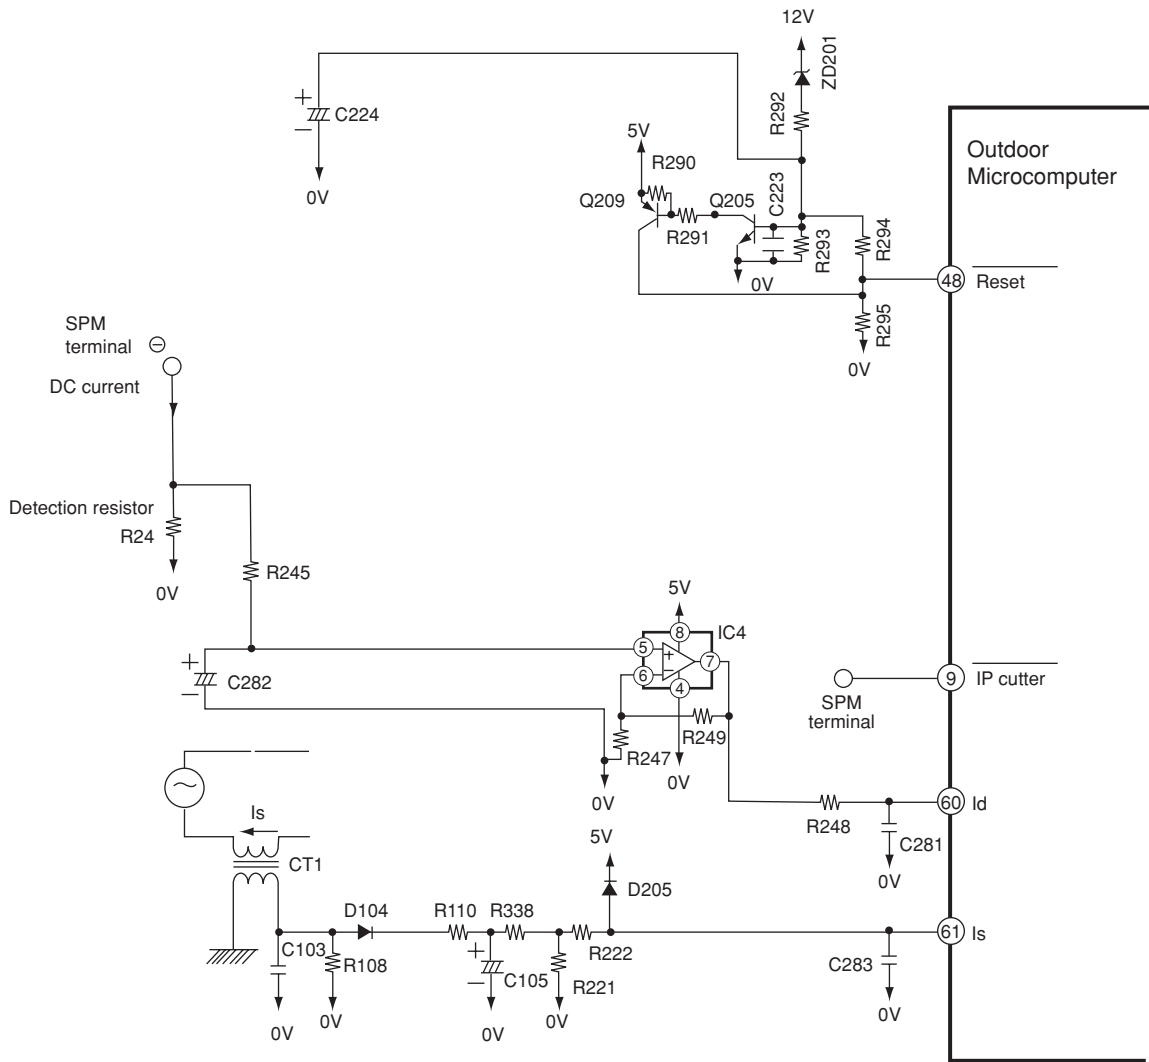

Fig. 7-1 Peripheral circuit of microcomputer
- Fig. 7-1 shows the microcomputer and its peripheral circuits.